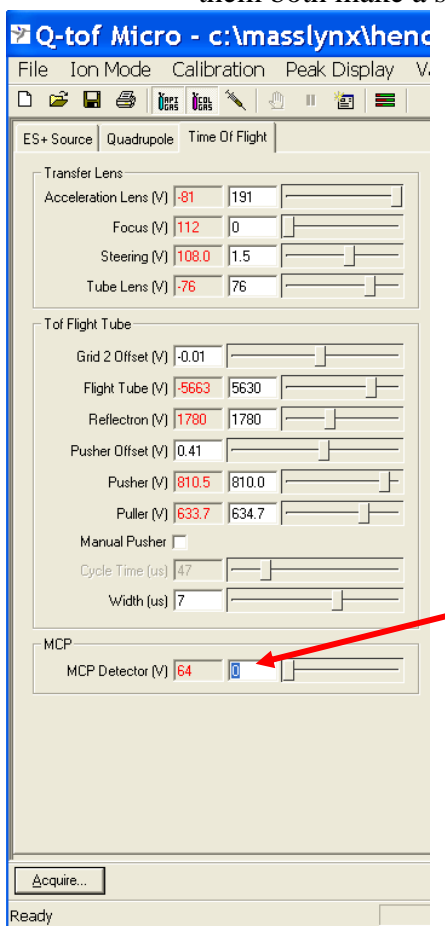

Figure 9
- a. Under the TOF tab, the MCP voltage must be reset to 0 (Figure 9).